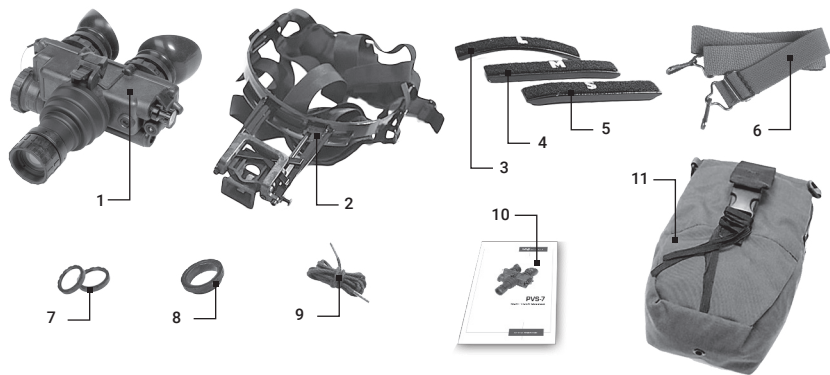

FIGURE 1-2. PVS-7 STANDARD COMPONENTS
The PVS-7 standard components shown in Figure 1-2 and listed in Table 1-1.
The ITEM column indicates the number used to identify items in Figure 1-2.
1. Open the carrying case (Figure 1-2), remove the PVS-7, and inventory all items.